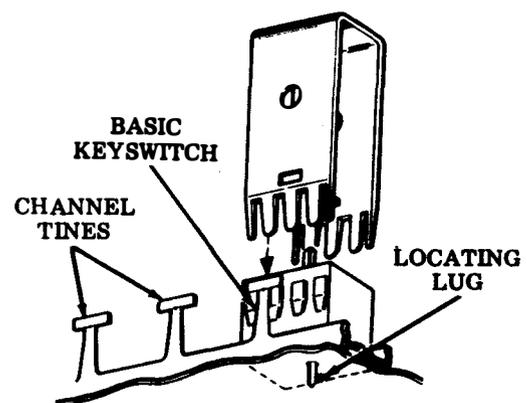

Fig. 18—Keyswitch Removal
- (d) Place 346257 tool over the keyswitch and press downward. When the tool bottoms and embossed projections snap into notches on keyswitch, squeeze and pull back on the tool to lift keyswitch out (Fig. 18).